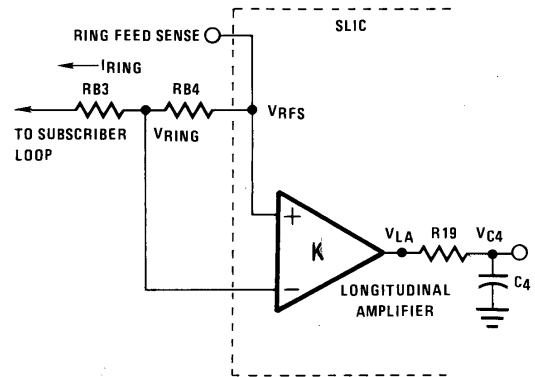
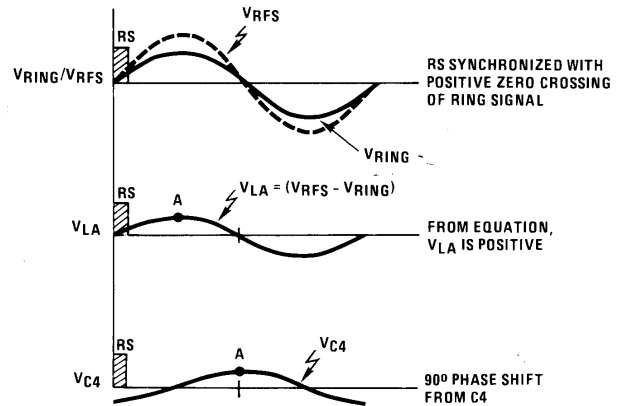

FIGURE 4.
FIGURE 5.
For Case 2 refer to Figures 4 and 5. Here ring sync must be synchronized with the positive zero crossing of V_{RING} (AC) as it appears on the line so as to coincide with the negative peak of V_{C4} (AC), as in the previous case. One can see from Figure 5 that ring sync on the negative zero crossing would coincide with the positive peak of V_{C4} , inhibiting ring trip for loops greater than approximately 800Ω .